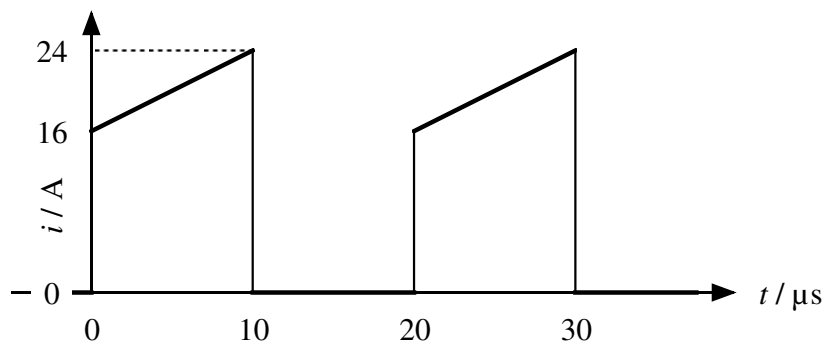

Figure 23. Current as a function of time through the load and MOSFET.
- The current is shown in figure 23. The period is $1/(50 \text{ kHz}) = 20 \mu\text{s}$ and the 50% duty cycle means that the MOSFET is on for $10 \mu\text{s}$ and off for $10 \mu\text{s}$.